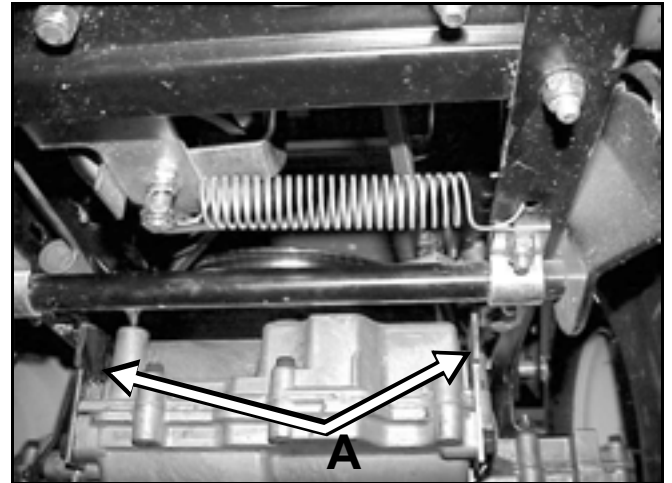

Figure 48
1. Raise the transaxle up to the frame and install the 4 axle bolts and 2 torque strap bolts. Tighten all 6 bolts (Figure 48).